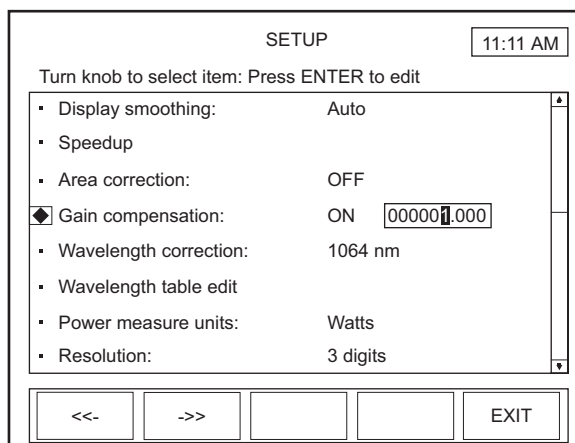

Figure 54. SETUP: Gain Compensation
3. Turn the Selection knob and display ON in the Gain Compensation field and then press the ENTER/SET button to move the highlight to the Gain Compensation value field (shown as 000001.000 in Figure 54).